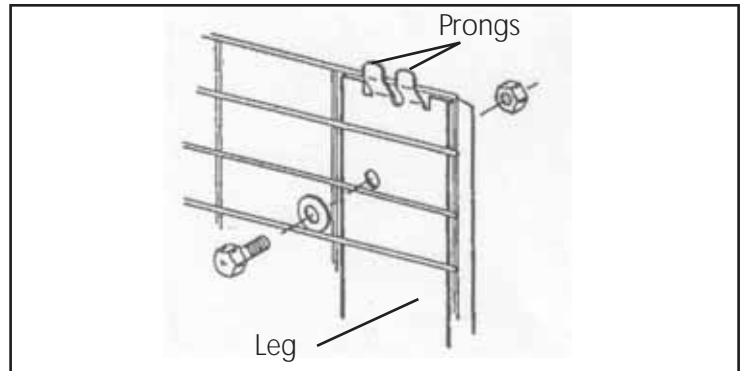

Figure 7
9. Ensure that the top wire of the side panel fits over the prongs on the legs as shown in Figure 7. If necessary, bend the prongs out slightly with a screwdriver. Install the bolts, washers, and nuts (finger tight at this time).